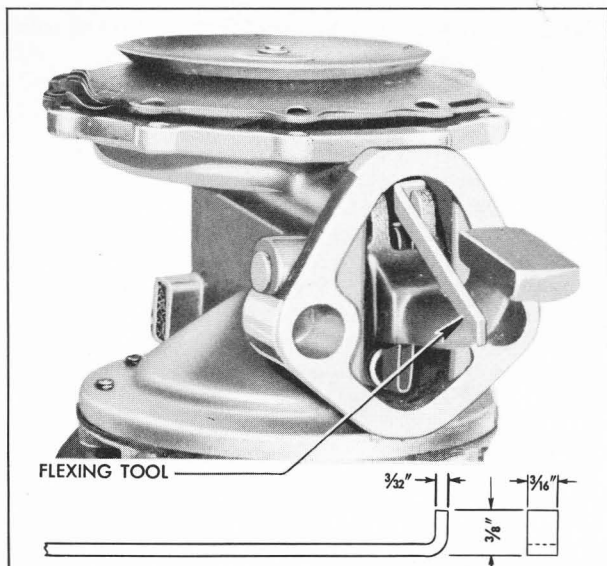

Figure 3-31—Vacuum Diaphragm Flexing Tool in Place
7. Depress rocker arm and insert hooked end of Diaphragm Flexing Tool KMO-613 between rocker arm and the stop cast in pump body, then release rocker arm. The vacuum diaphragm will be held in a flat or level position. See figure 3-31.